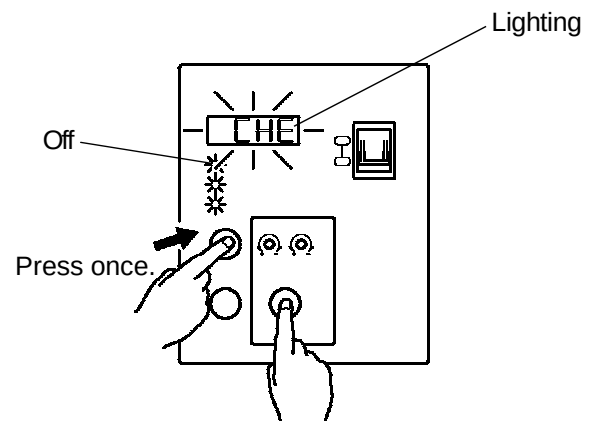

Fig. 36
- 17) Check that "CHE" is displayed in the Display Window. "CHE" indicates that the unit is in the Check Mode. See Fig. 36.